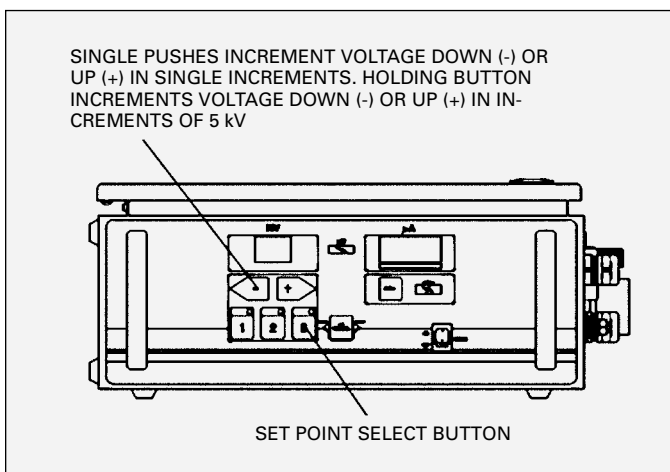

Figure 17: kV Adjust/Setpoint Buttons
When the No. 2 Handgun is off, the present setpoint can be changed by pressing the 1, 2, or 3 buttons on the front panel shown in Figure 17. The setpoint that is currently selected will have the LED light in the upper right corner of the button lit.
To adjust one of the preset setpoints, ensure the No. 2 Handgun is off in LOCAL mode and select the desired setpoint by pressing the corresponding setpoint button. The setpoint can then be adjusted between 20 kV and full kV using the + and - buttons on the front panel of the 9060 Controller shown in Figure 17. Single pushes of the + or - buttons will increment or decrement the currently selected preset in units of 1. When the + or - buttons are held in for longer than a 1/2 second, the kV display will begin incrementing or decrementing in units of five (5).